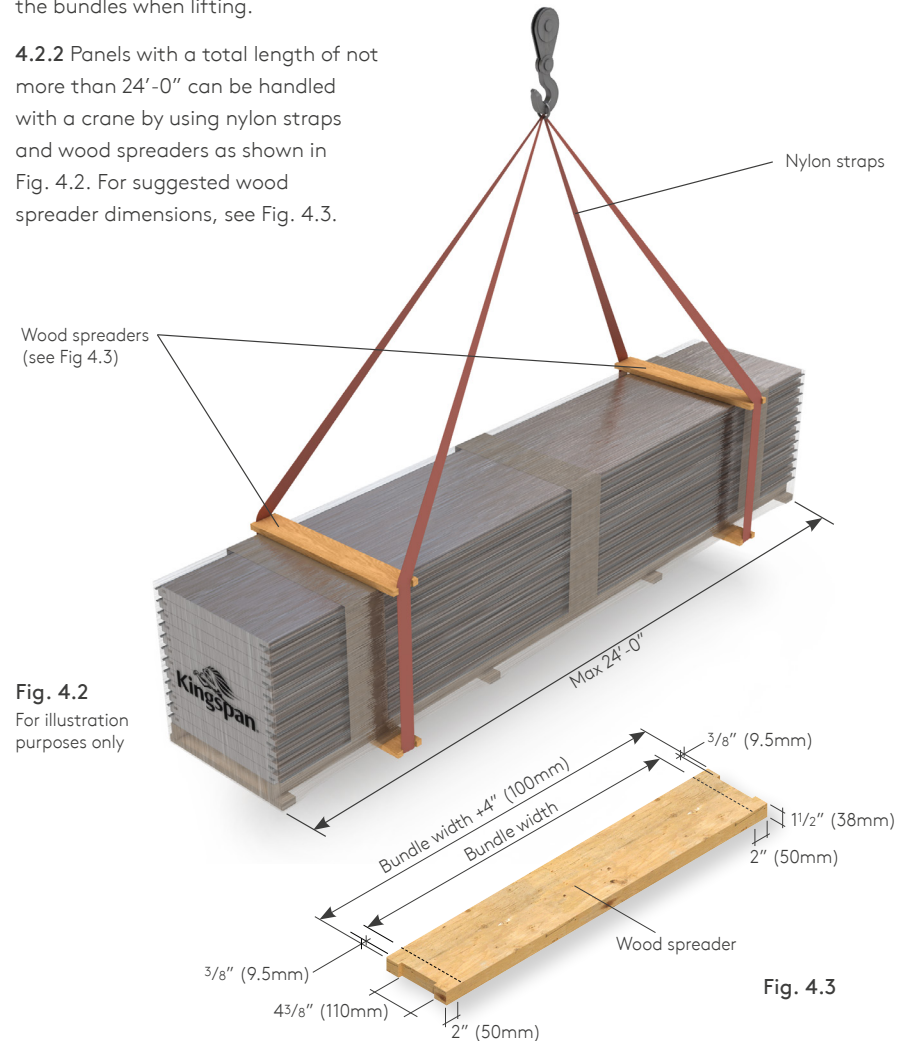

Fig. 4.2
4.2.2 Panels with a total length of not more than 24'-0" can be handled with a crane by using nylon straps and wood spreaders as shown in Fig. 4.2. For suggested wood spreader dimensions, see Fig. 4.3.